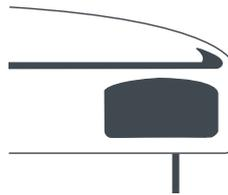

Fig.14
Safety window (6). Should there be excessive pressure, the steam will be expelled through the safety window cut on the edge of the lid (Fig. 14). This is a safety mechanism which is only activated in the event of abnormal use. Should both valves, i.e. the operating and safety become locked due to overfilling the cooker for example, the pressure will expel the silicone seal and allow pressure to escape through this window. If this happens, take the cooker to your nearest **Authorised Technical Service** to check all the safety systems.